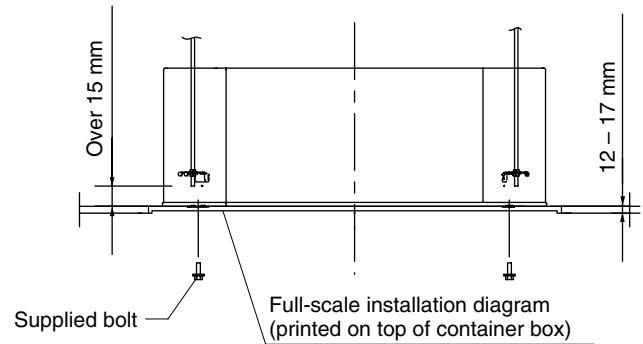

Fig. 3-35
- (1) When placing the unit inside the ceiling, determine the pitch of the suspension bolts using the supplied full-scale installation diagram. (Fig. 3-35)
- (2) The length of suspension bolts must be appropriate for a distance between the bottom of the bolt and the bottom of the unit of more than 15 mm as shown in Fig. 3-35.